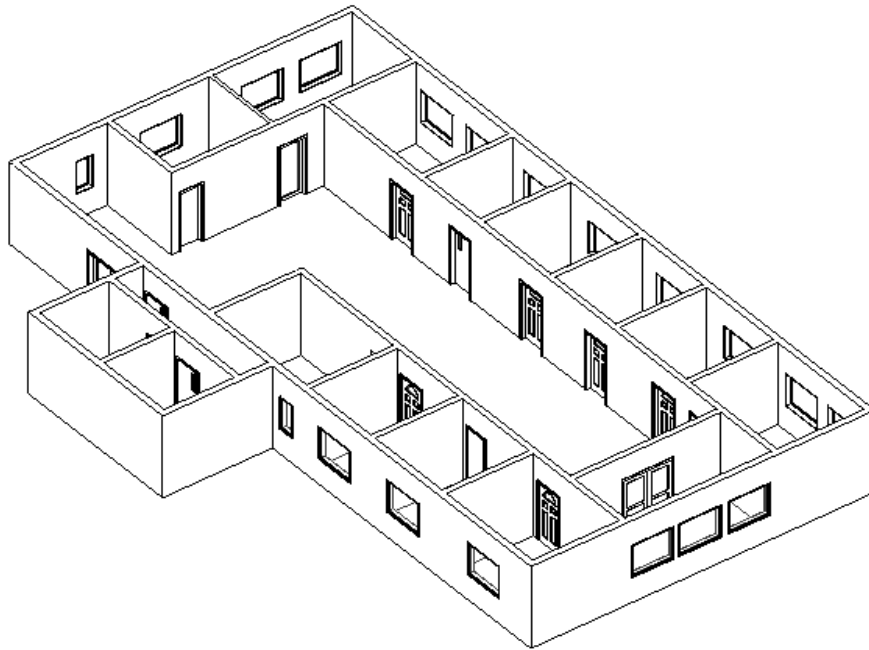

Figure 3-87 3D view of the Apartment 1 project
14. To view the plan in 3D, choose the **Default 3D View** tool from **View > Create > 3D View** drop-down; the 3D view of the project is displayed, as shown in Figure 3-87.